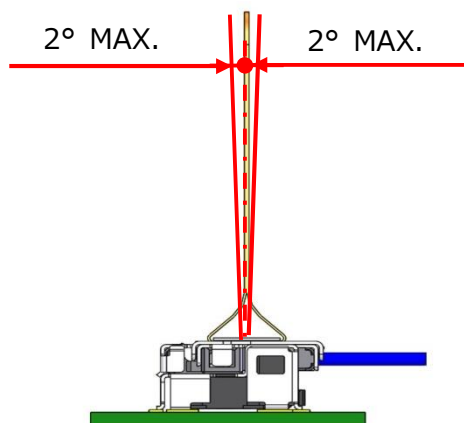

Fig.29 PULL TAPE slanted allowance angle
- Do not exceed PULL TAPE slanted allowance angle while connectors were mated. [Fig. 29]